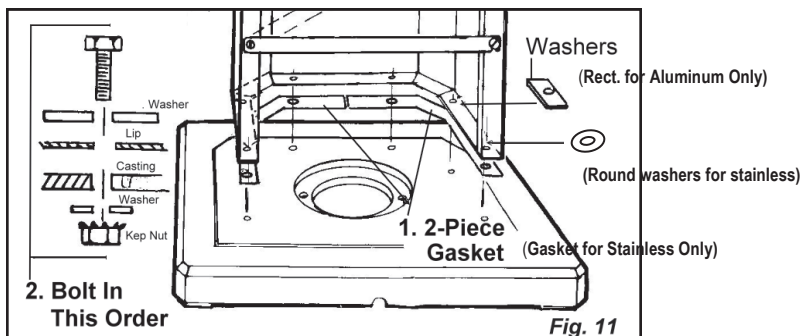

Fig. 11
Step 2: Attach the Base to the Pedestal (Fig. 11)